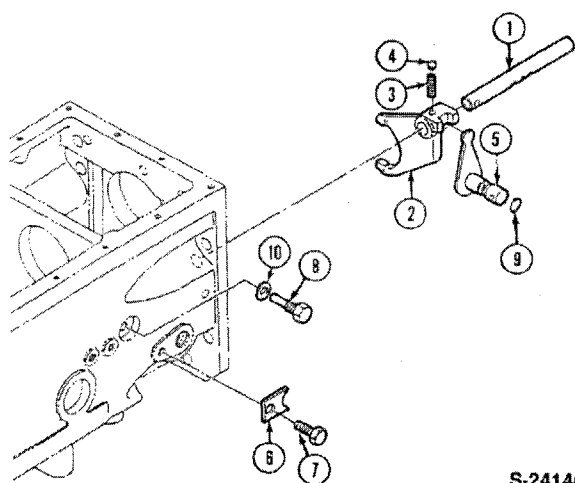

Figure 139
1. Remove the retaining bolt (8), Figure 139.
4. If required, remove the bolt (7), and plate (6), Figure 139.
5. Remove the shift arm (5) from the inside of the case.
2. Remove the shift rail retaining bolt (8), Figure 139, to permit sliding the shift fork, rail and sliding gear back and forth easily to prevent binding.